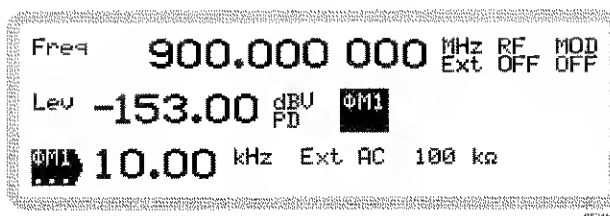

Fig. 3-73 Φ M1 main screen
- 2 Press **SIG GEN** to show the main screen, and touch the **Φ M1** soft box to select the function (Fig. 3-73).